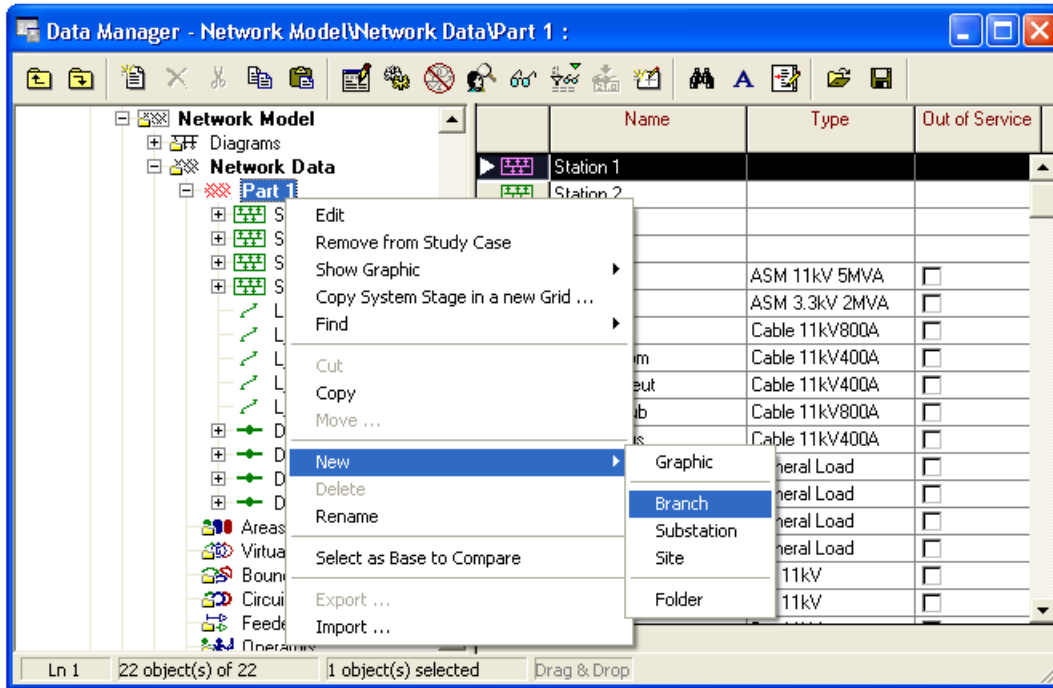

Fig. E.4: Creating a new Branch in the Data Manager
- ▶ Select 'New --> Branch' from the context-sensitive menu as shown in figure E.4.